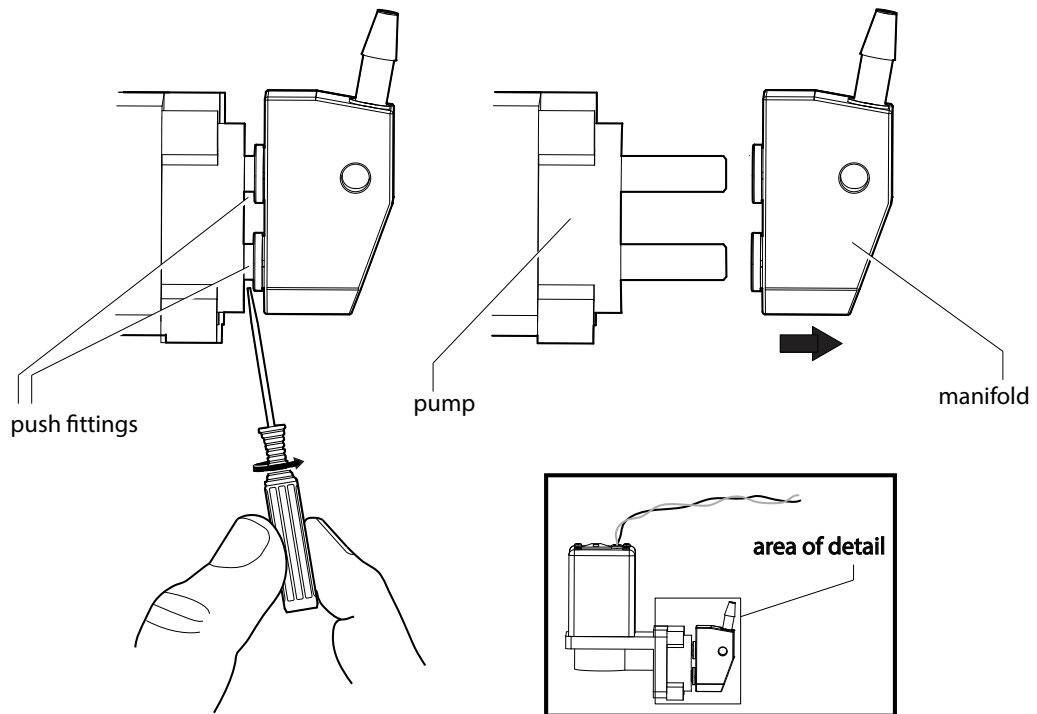

Figure 35. Disconnecting the push fittings
9. Separate the pump manifold from the pump. Disconnect the two push fittings by gently twisting the jeweler's screwdriver as shown in Figure 35.